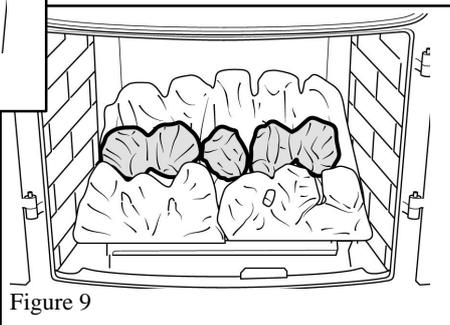

Figure 9
5. The double top coals are marked "L" and "R". Place the coal marked "L" behind the front left coal. Place the coal marked "R" behind the front right coal. Place the single coal between the two double coals. See figure 9.